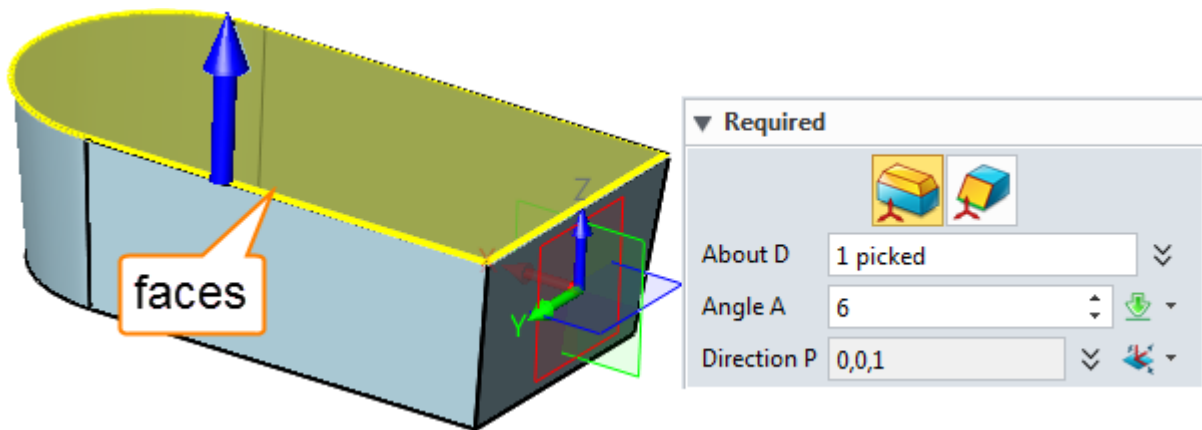

Figure46 Draft—Faces
STEP 01 Select the faces to draft, see Figure46.